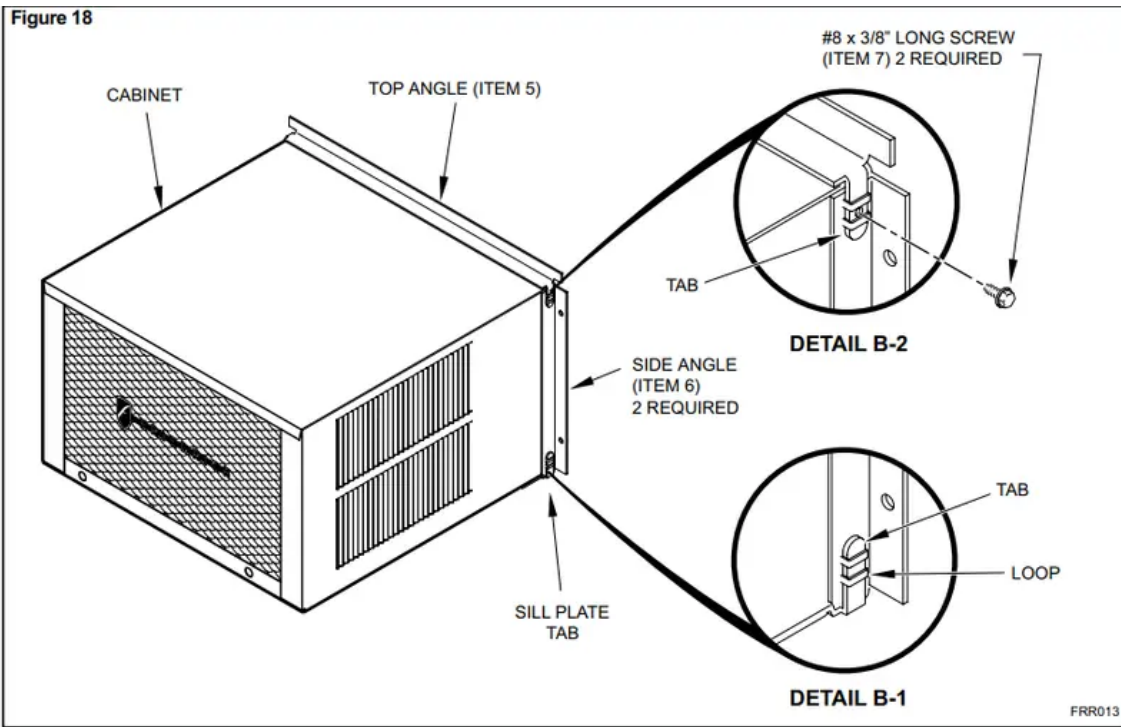

Figure 19
Raise the lower window 1/4" more than the height of the cabinet. Carefully slide the cabinet through the opening until the lower sill plate channel rests behind the window sill and the top angle rests against the window (See Figure 19). Center the cabinet within the opening. Drill three (3) 5/32" diameter pilot holes into window sill using the holes in the cabinet sill plate as a guide. Install three (3) #12 x 2" long screws (Item 4) (See Figure 19)